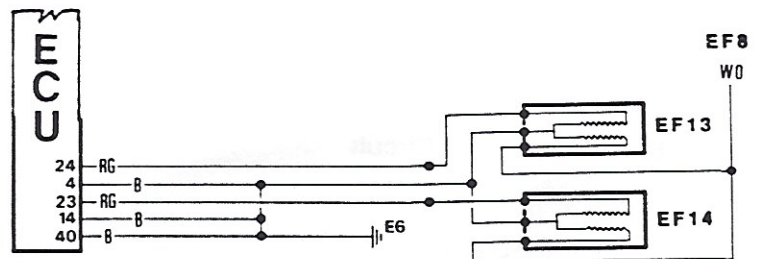

fig.46
Current to the lambda sensors (EF13 & EF14) (See Figure 46) is supplied from terminal 87 of the fuel pump relay (EF8) via the White/Orange wire (WO).